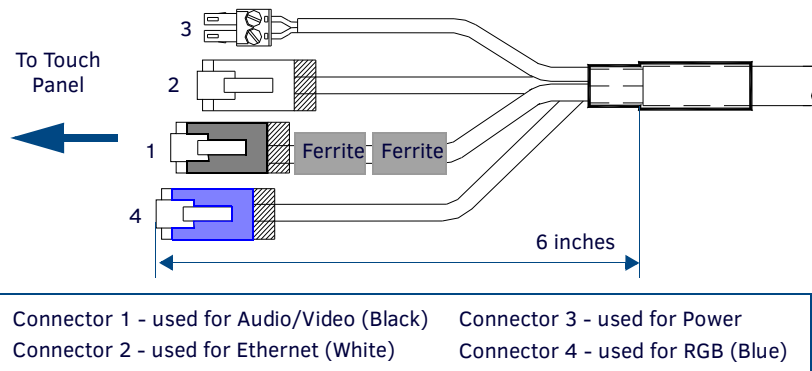

FIG. 11 Ferrite connector location on Audio/Video RJ-45 cable
2. Grasp the Black RJ-45 Audio/Video cable being connected to the panel. This end of the cable is longer than the opposing end which connects to the breakout box (6 inches vs 3 inches). Refer to FIG. 11 for more detailed information.